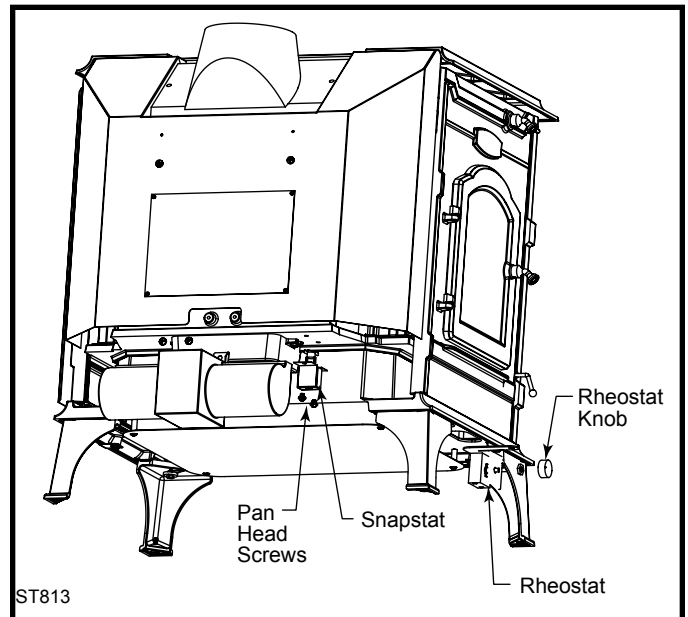

Fig. 23 Fan installation.
1. Secure the fan assembly to the inner back with two (2) ¼-20 x ¾" hex head screws and one (1) ¼" star washer as shown in Figure 23.
2. Attach snapstat to the mounting holes on the underside of the bottom with two (2) ¼-20 pan head screws.